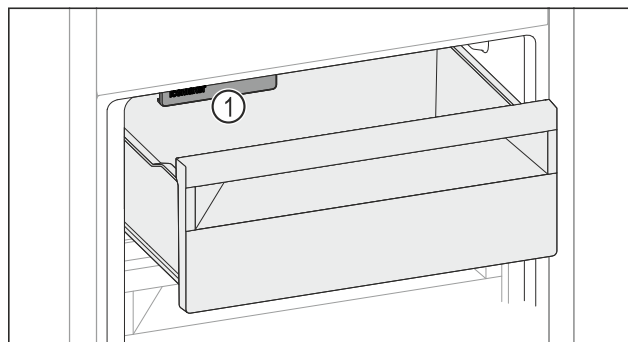

Fig. 177
- Pay attention to the IceMaker Fig. 177 (1).